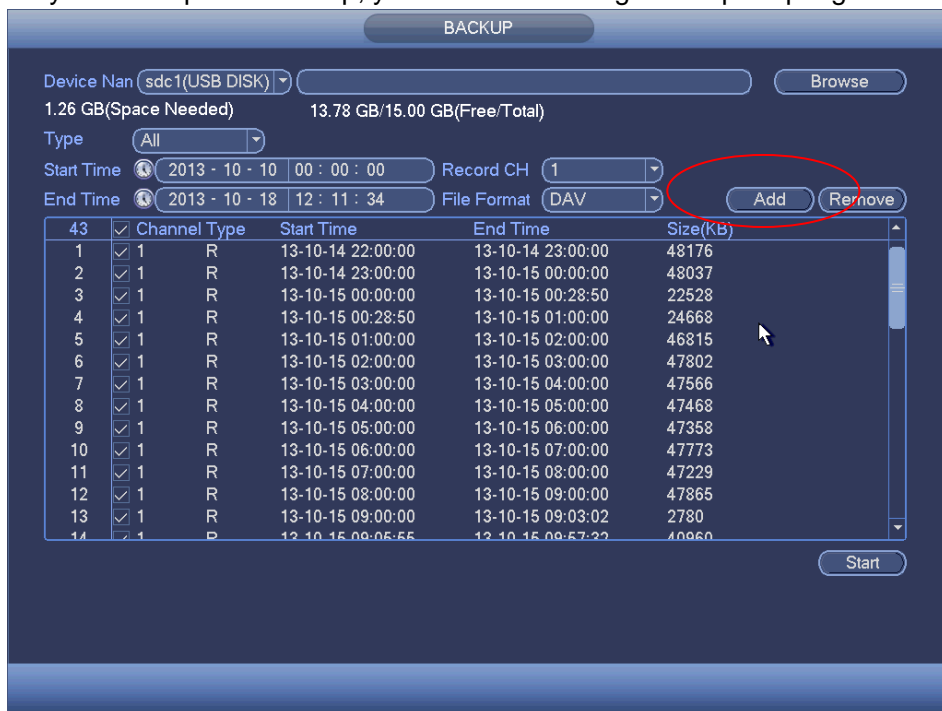

Figure 4-223
- d) Click add button, system begins search. All matched files are listed below. System automatically calculates the capacity needed and remained. See Figure 4-223.